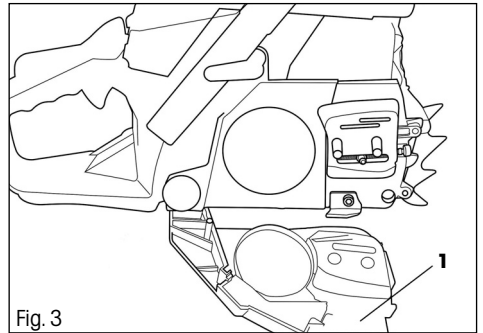

Fig. 3
- ✿ Loosen two nuts and take off the sprocket cover (Fig. 3, point 1).